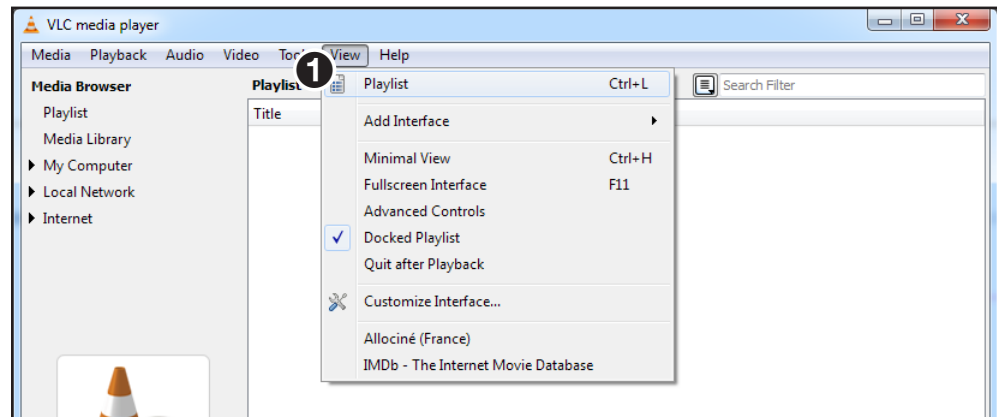

Figure 71. VLC Playlist
1. Open VLC. From the **View** menu, select **Playlist** (see figure 71).